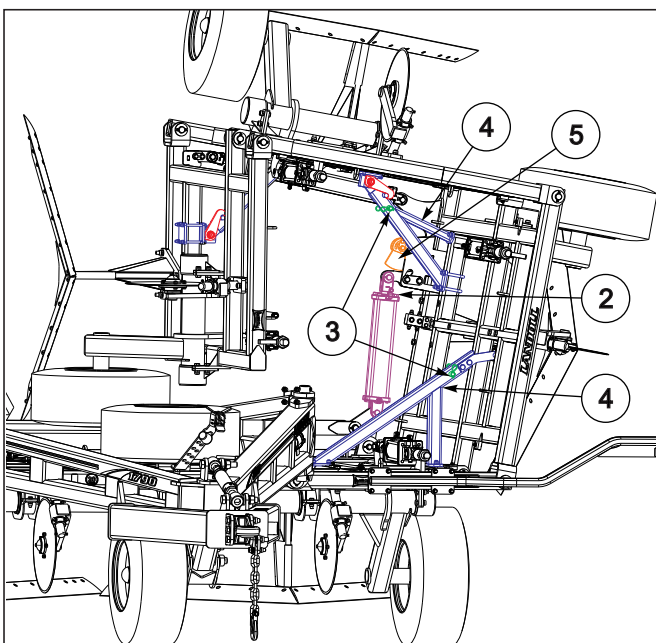

Figure 4-8: Folding Cylinder (Model 1790 Shown)
4. Ensure that the inner most fold cylinder(s) (2) are fully retracted and that the gravity stop (5) is in the correct orientation Model 1790 & 1710 Only See Figure 4-8.
2. Remove wing lock pin (3) and store in wing stabilizer (4) as shown Model 1790 Shown See Figure 4-8.
3. Ensure that the gravity stop (5) has remained in the correct orientation See Figure 4-8.